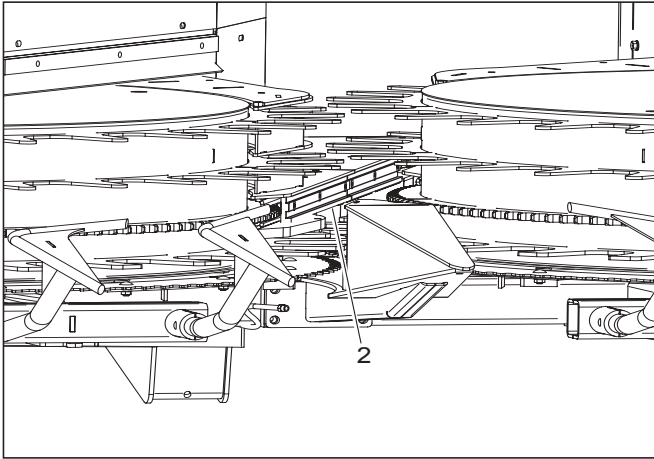

Figure 40 Chain slide bar
CHAIN REPLACEMENT - FIGURES 40 AND 41
4. Check chain slides for wear (item 2 in figure 40) and replace if necessary.